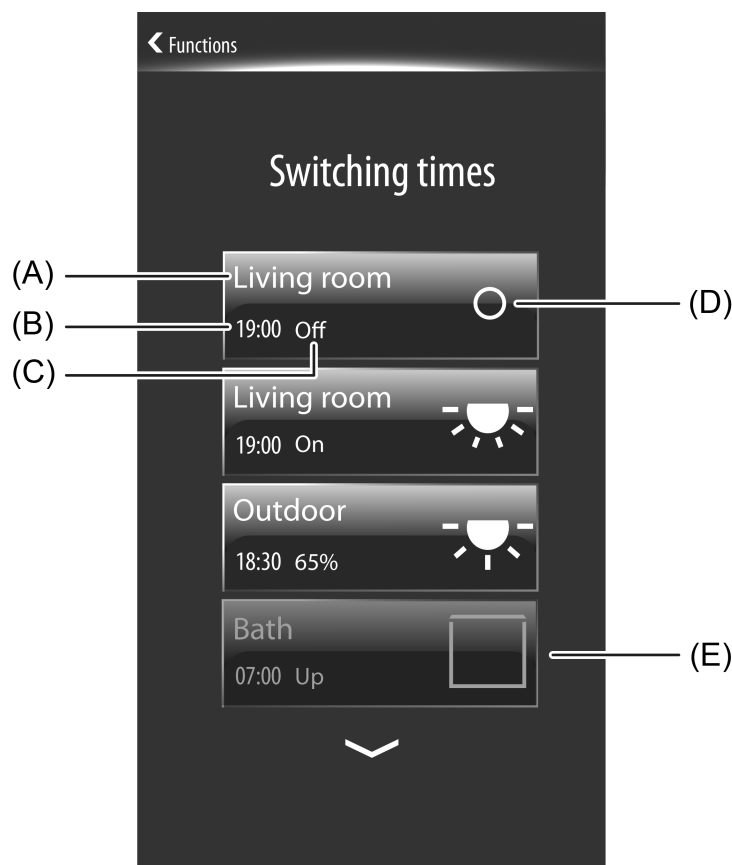

Figure 110: Example of display elements of the sensor elements in the Switching times overview
The sensor surfaces of the switching times visible in the display have different display elements (figure 110). For this reason, each switching time is indicated by the room name (A) to identify the area of operation (e.g. "living room", "kitchen"). This room name is specified by allocating the KNX channels to the existing rooms (parameter "room" in the parameter node of a channel). In addition, the enabled switching time is indicated (B) in the sensor element. A status text (C) to the right of the switching time indicates which channel command with an active switching time is being executed for the specified time. The executable channel commands are dependent on the configured function of the allocated KNX channel (see page 227-228). A status icon (D) is also displayed on the right-hand side of the sensor elements. Just like the status text, the icon also indicates the channel command to be executed in graphic form. With some channel functions the icon can be changed if required and thus adapted to the activated KNX function. In the sensor element of a switching time, the symbol selected by the ETS configuration of the allocated KNX channel is always used.
Deleted switching time are inactive and are removed from the switching time overview (figure 110). As a result, it is possible that the overview will display a lower number of switching times than the maximum 8 available.